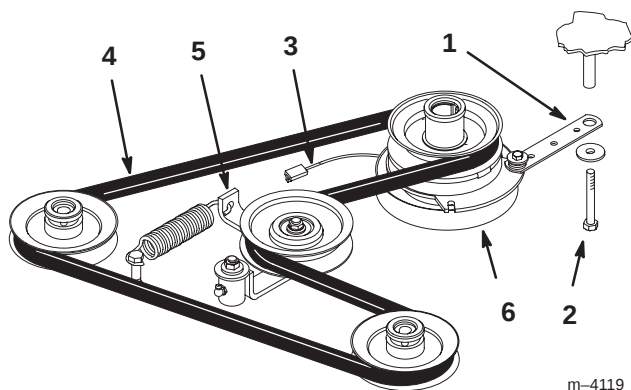

Figure 70
2. Remove bolt from clutch strap and unplug clutch electrical wire (Fig. 70).
3. Pull spring loaded idler to side. Remove traction belt from the engine and hydro pump pulleys (Fig. 70).
4. Install new belt around engine and hydro pump pulleys (Fig. 70).
5. Pull spring loaded idler to side and align belt. Release pressure on spring loaded idler (Fig. 70).